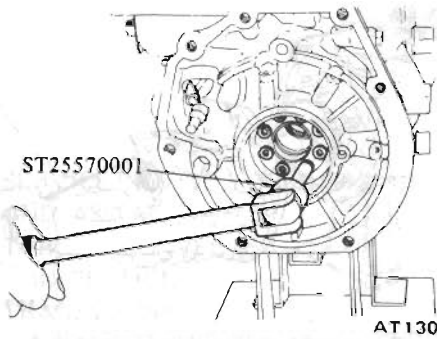

Fig. AT-64 Removing hex-head slotted bolt
18. Reaching through back side of transmission case, remove hex-head slotted bolts as shown in Figure AT-64. To do this, use Hex-head Extension ST25570001 (ST25570000). One-way clutch inner race, thrust washer, piston return spring and thrust spring ring can now be removed.